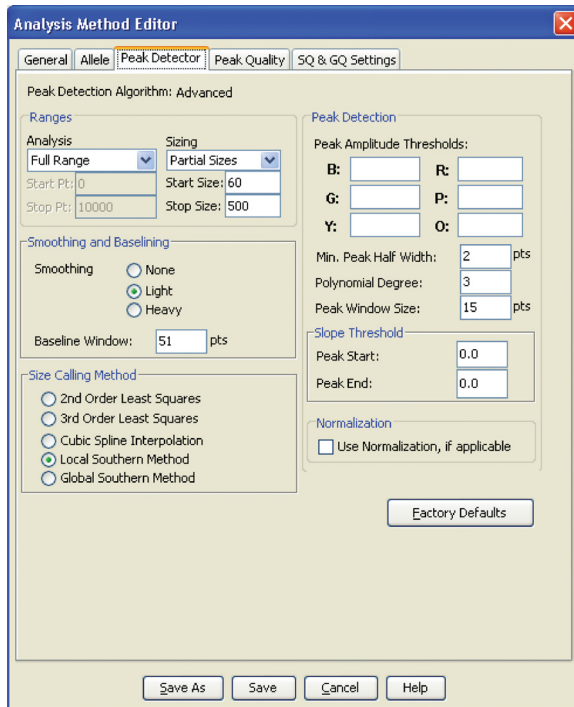

Figure 14. The GeneMapper® ID-X Software, Version 1.2, Peak Detector tab.
9. Select the Peak Detector tab (Figure 14). You may need to optimize these settings. In-house validation should be performed.